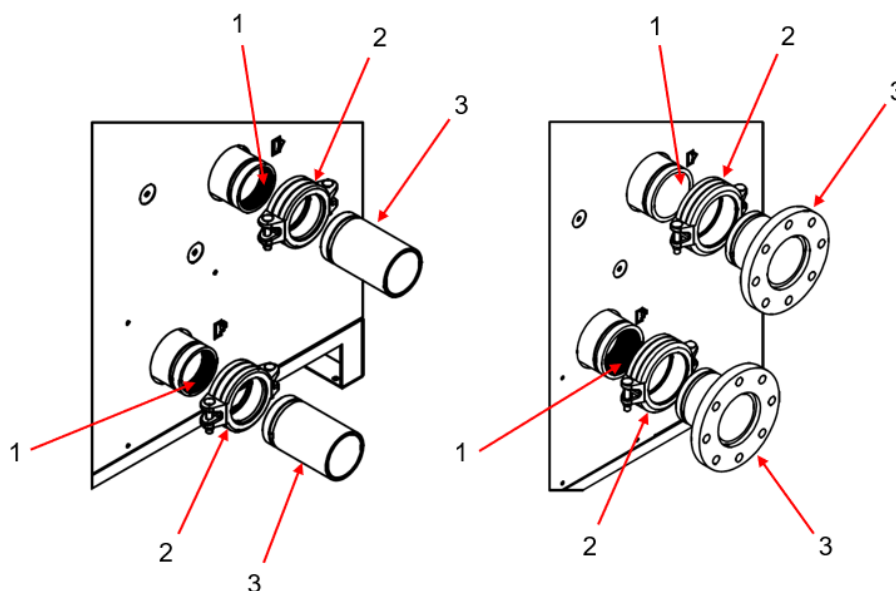

Fig.6
The dryer models in the DXR1050NA-DXR2400NA range are equipped with couplings (2) and threaded adapters (DXR1050NA-DXR1250NA) / flanged adapters (DXR1600NA-DXR1800NA-DXR2200NA-DXR2400NA) (3) supplied with the machine (Fig. 6).